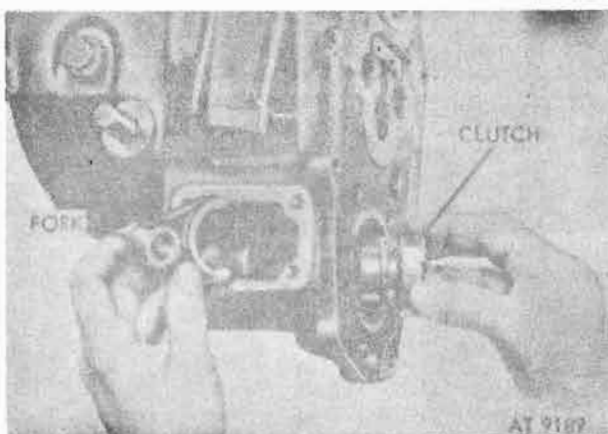

Figure 8-56. Shifter fork and clutch.
f. Remove shifter fork and clutch (fig. 8-56).